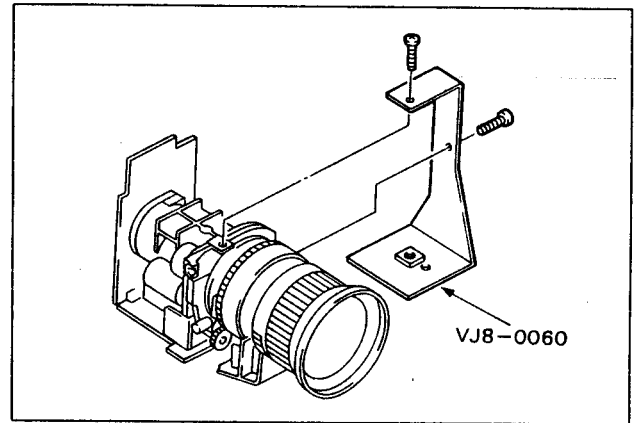

Fig. 1-1.
- 1) Referring to Fig. 1-1., attach the camera to the jig J-5.